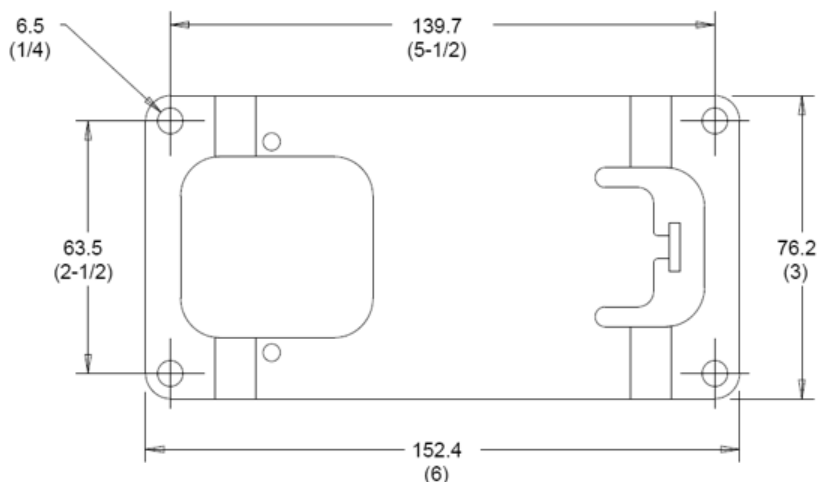

Figure 3: Hole patterns in mounting brackets with dimension, mm (in.)
See Figure 3 for the hole mounting pattern of the mounting brackets. The hole pattern locates the actuator crankarm assembly with respect to the drive blade, jackshaft, or crankarm to be driven.
2. Locate the actuator mounting holes that are located under the label at the  symbol printed on the label, shown in Figure 3. Puncture the label with a sharp object to help start the thread forming screws.
6. Use the center punch to mark the hole locations for the bracket in the duct or damper frame (Figure 3).